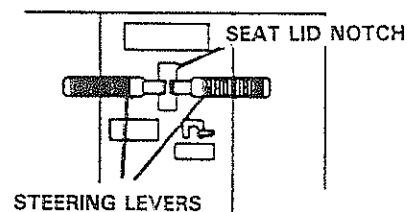

FIGURE 11A
7. Shut engine off. Unlock steering levers and place levers in full forward position. Levers must rest against front edge of notch in seat lid (see Figure 11A). If levers do rest against front edge of notch, proceed to Step 9, if not, perform Step 8.